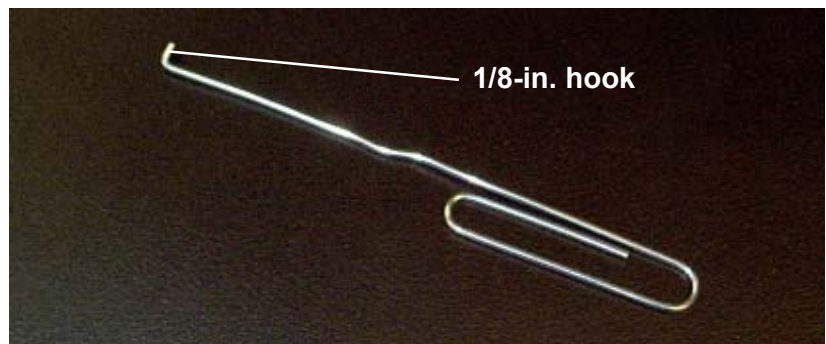

Figure 45. Paper Clip Tool for Removing Brake
4. Unbend the outer tine of a paper clip. (The 1-3/4-in. long clips work just fine!) With a needle-nose pliers, bend the end of the paper clip to form about a 1/8-in. hook (Figure 45).